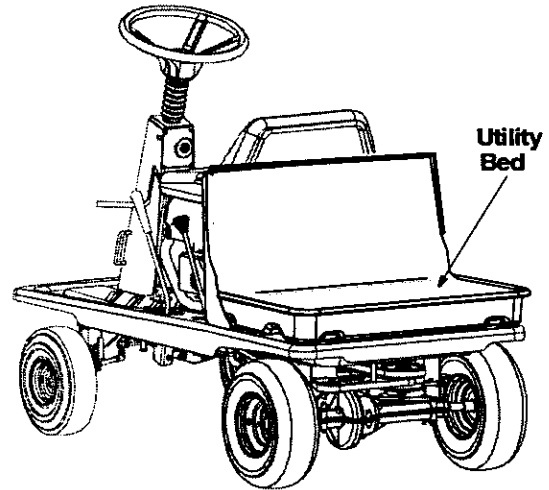

Figure 9
- Remove grass catcher to expose the utility bed. See Figure 9 . Follow instructions on page 7 for grass catcher removal. Exercise caution in driving the vehicle when hauling things on its utility bed.